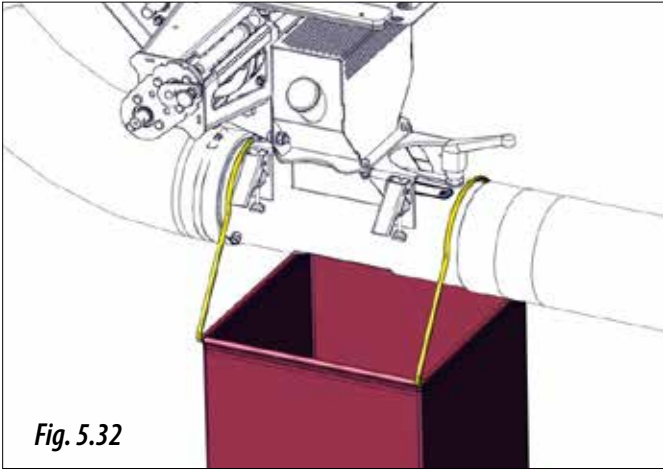

Fig. 5.32
4.A.3- Place the bag supplied or a container under the Venturi injector outlet (Fig. 5.32).